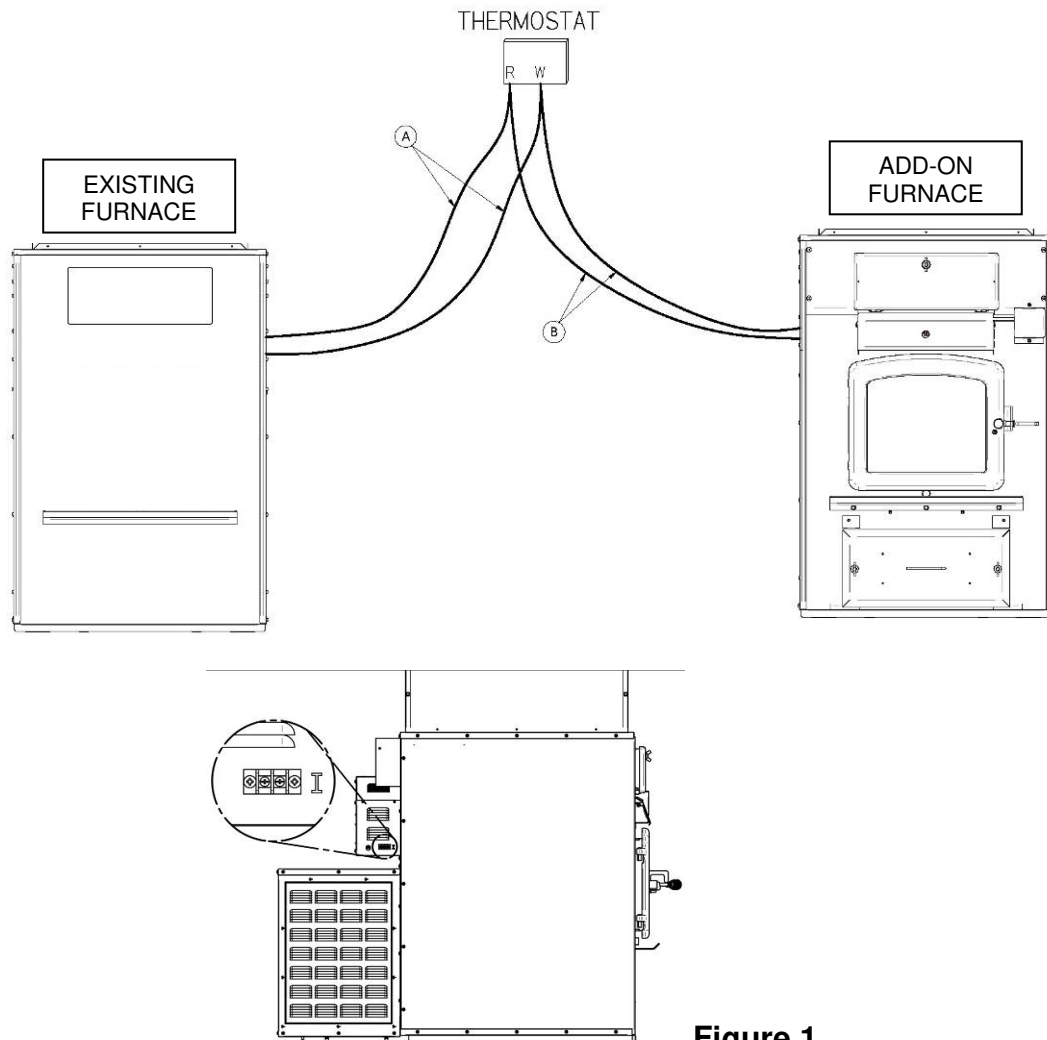

**Figure 1**
- 1- From the terminal of the existing furnace, connect 2 new wires (B) to the existing wire (A) and fix them to the terminal on the circuit board labeled "I" (interlock) of the Add-On furnace (see **Figure 1**).
- 2- From the thermostat connected to the existing furnace, connect 2 new wire (B) on the R and W terminals of your thermostat and fix them to the terminal on the circuit board labeled "I" (interlock) of the Add-On furnace (see **Figure 1**).